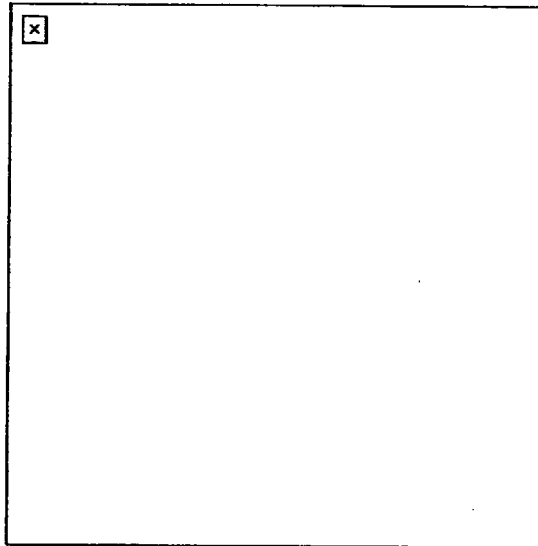

Figure 5. Insertion of the barrel assembly.
- 6. Assemble the pistol (Figure 5).